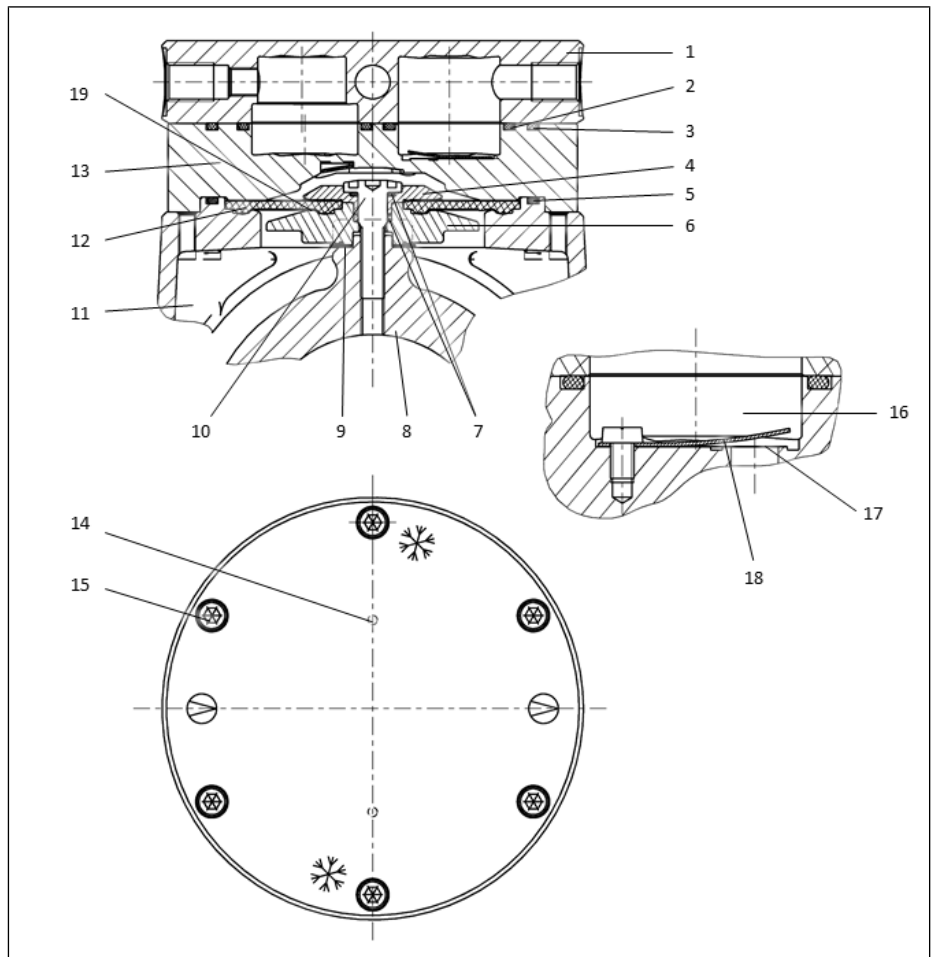

Fig.18 Components of the pump head
\*\* According to Fig. 18
**i** The following item numbers refer to Fig. 18 unless specified otherwise.